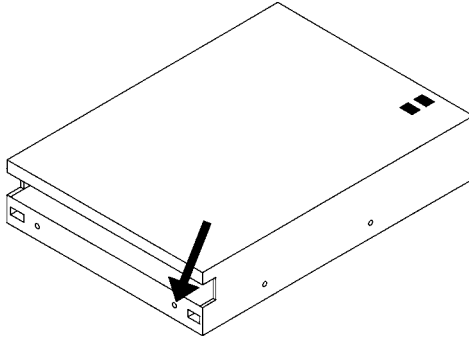

Figure 21: Disk Eject Hole
- a. Insert a small screwdriver or paper clip into the disk eject access hole (see Figure 21).